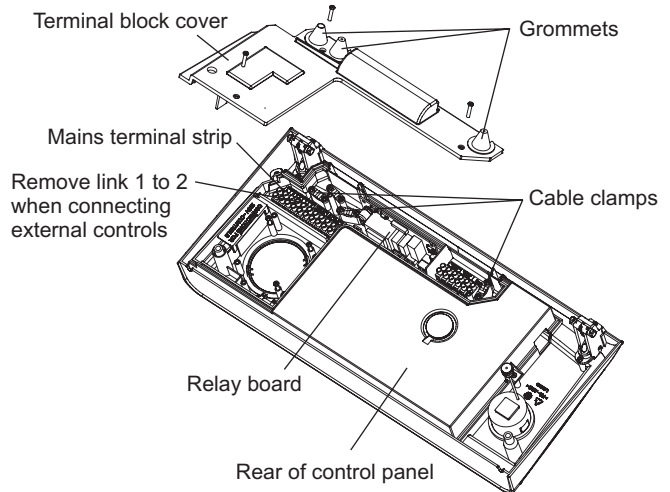

Fig. 4.14
4.10 CONNECT THE MAINS SUPPLY - Fig. 4.14
Remove the three screws securing the terminal block cover from the back of the control box (see Fig. 4.14). Pass the mains supply cable through the cable clamp and connect as follows:- Brown to L, Blue to N and Green/Yellow to \perp . Ensure correct polarity.